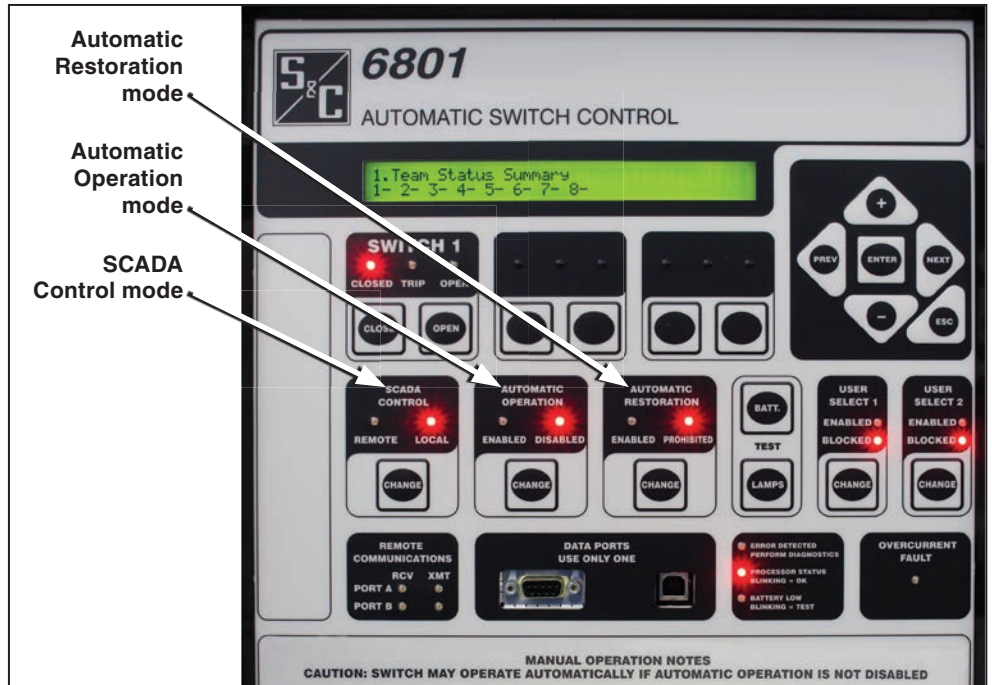

Figure 1. The 6801 control faceplate.
6800 controls can be operated in two states: **Local** and **Remote**. When set to the **Remote** state, SCADA commands are permitted. When set to the **Local** state, SCADA commands are blocked and the 6800 control can be operated by the faceplate or with a local connection using IntelliLink Setup Software. The **SCADA Control** mode can be set to the **Local** state from the front panel, a local connection (serial or Wi-Fi), and with a remote IntelliLink software command. When the **SCADA Control** mode is set to the **Local** state by a remote IntelliLink software command, the **Remote Operation** state can only be enabled by a local connection (serial or Wi-Fi) at the 6800 control site. See Figures 1 and 2 on page 7.
- STEP 2.** At the site, make sure the control has power by performing a lamp test. Press the TEST LAMPS button, and every LED on the faceplate should illuminate. See Figure 1 on page 7.